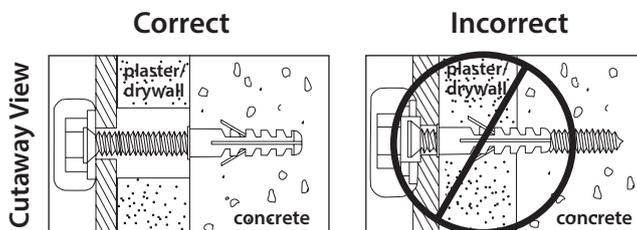

Figure 2
- Pre-drill three holes into concrete using 5/16" drill bits to a depth of 2-1/2". Insert concrete wall anchors (U) and tap in with hammer, if necessary (Figures 2 & 3).